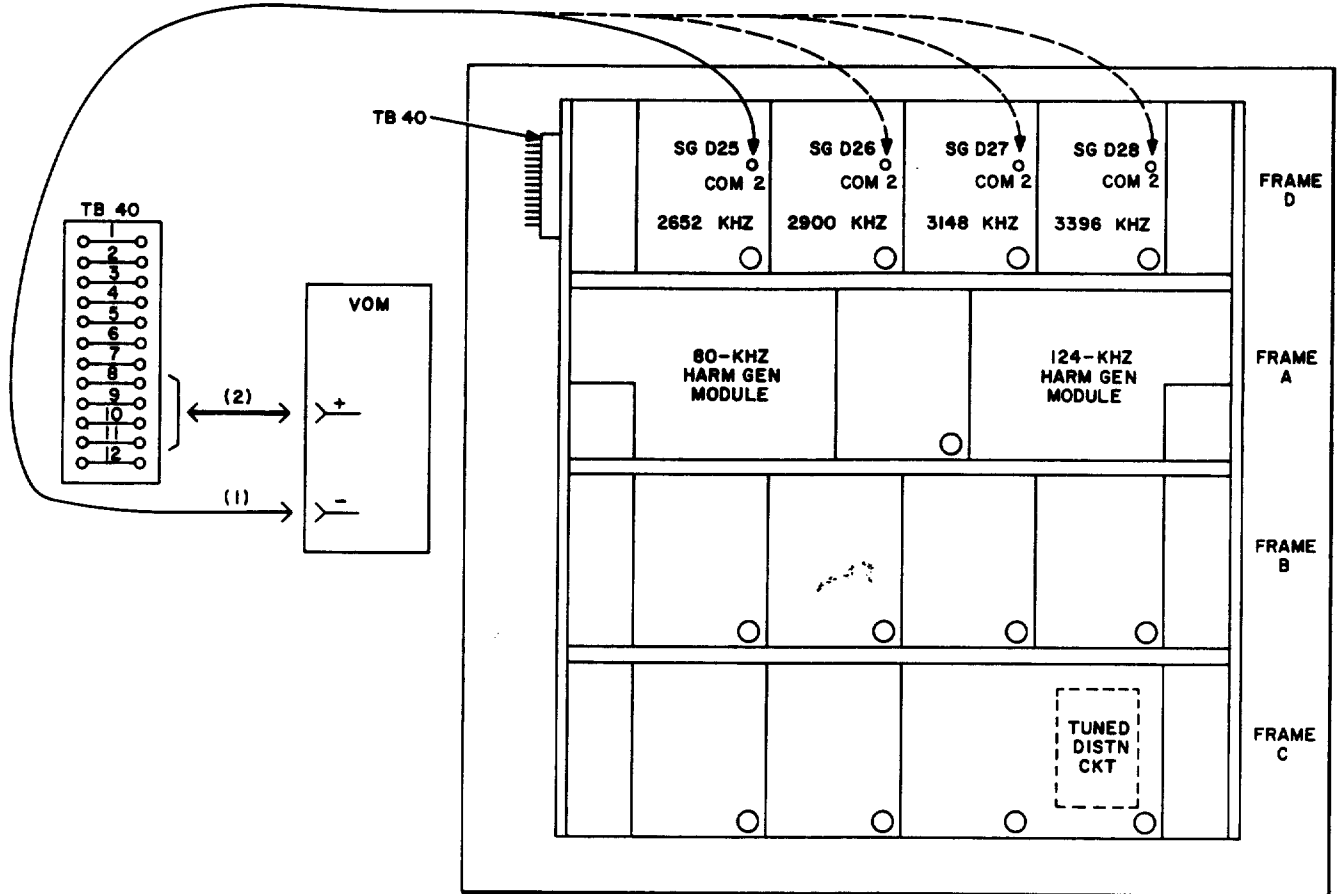

Fig. 2—Measurements at Supergroup Carrier Supply J68857C4
| 3           | Make patch (1) in Fig. 2 on the supergroup carrier supply distribution module associated with the carrier supply modulator to be tested.        |
5	Make patch (2) in Fig. 2 at terminal board TB40.♦
10	Remove patches (1) and (2) in Fig. 2.